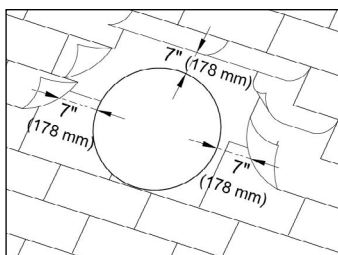

Figure 4
- 5. Roll back upper shingles...** 7" (178 mm) from top and sides; make sure all roofing nails have been removed. See Figure 4.